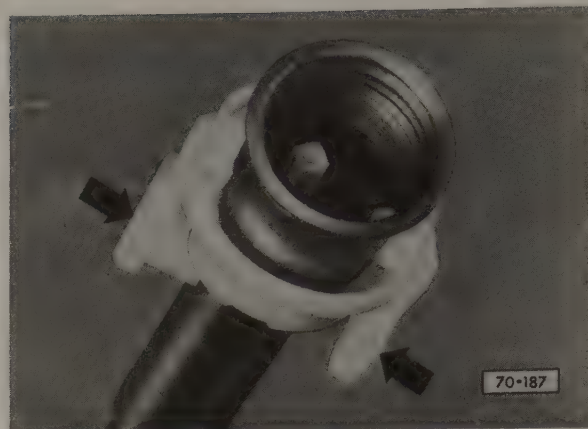

Fig. 4-4. Speedometer cable retaining clip. Arrows indicate clips to be pinched.
4. Remove the speedometer cable. Reach behind the instrument cluster and pinch the cable retaining clip, sliding it off the cable end. See Fig. 4-4. Pull the cable from the cluster.
To remove a speedometer cable, disconnect the battery ground strap then remove the lower instrument panel tray as described above. Remove the cable from the back of the speedometer as shown in Fig. 4-4 above. Unbolt the cable from the transmission.